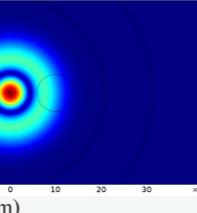

Fig. 7:  $\psi_2$  = MMF 1st excited mode.  $\delta = 8 \mu\text{m}$ .
- Again,  $L_1(\delta)$  and  $L_2(\delta)$  are the modal amplitudes, considering the fundamental and the 1st simmetric excited mode on fiber 2 (Fig. 7).